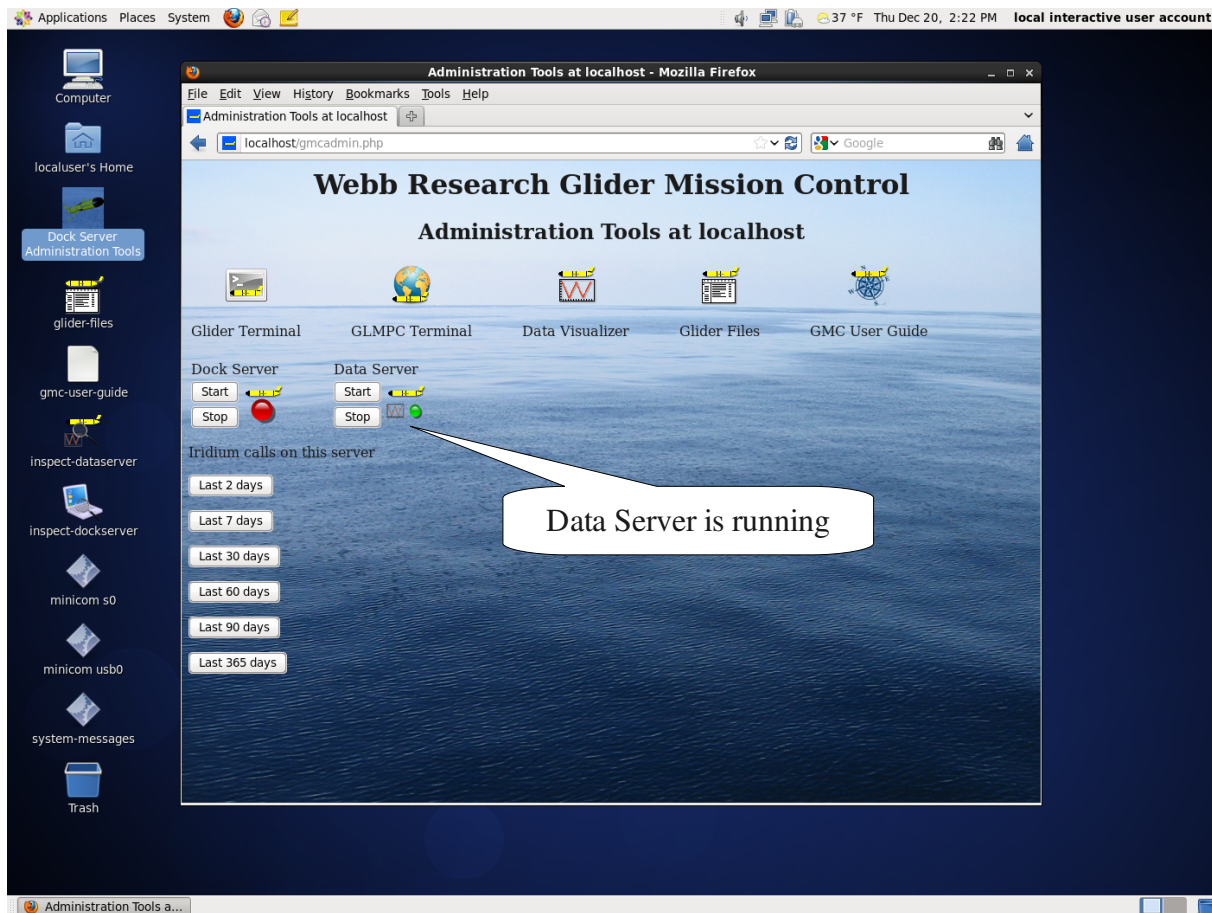

Figure 9-2. Browser window showing Data Server is running.
4. To start Data Server, click the “Start” button under the “Data Server” heading. Once Data Server starts, the state icon turns green (Figure 9-2).